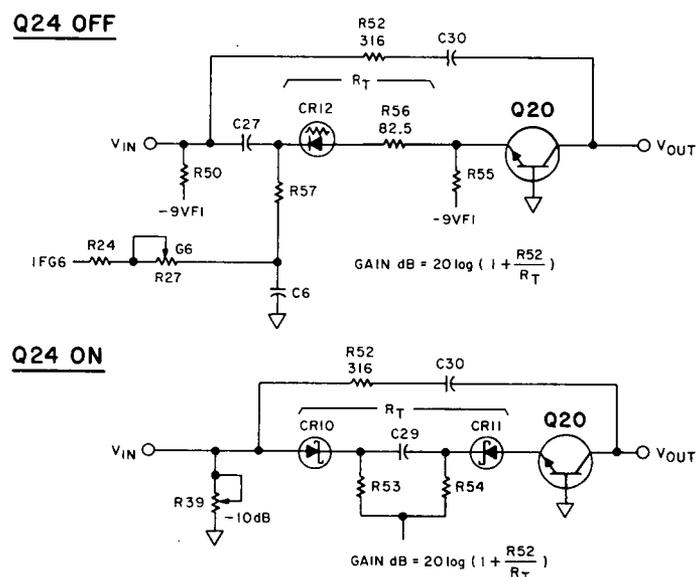

Figure 8-69. Simplified Log Amplifier Stage
**Log Amplifier Gain.** The operation of the second stage is described. In the log mode of operation, Q42 (Gain Control Lines circuit) is on, forward biasing the log diodes CR10 and CR11, which are Schottky diodes with a forward bias voltage of approximately 0.4V. The gain of the amplifier is set by the ratio of R52 to the total resistance  $R_T$  between the emitters of Q13 and Q8. An example of gain computation is shown in Figure 8-69.  $R_T$  is at a minimum (approximately 150 ohms) for small signals when the ac signal current in the log diodes CR10 and CR11 is small compared to their dc bias current. As the ac signal level is increased, the ac signal current increases to the level of the dc bias current and  $R_T$  increases because of current limiting in the diodes.